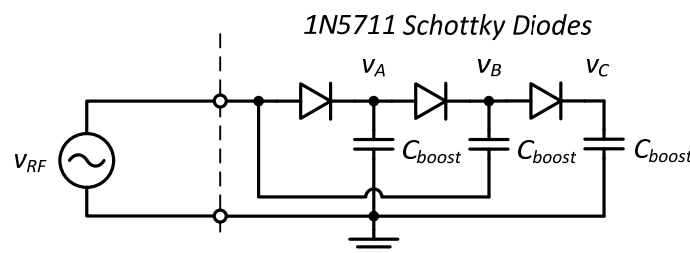

Figure 4. 3-stage voltage-boosting rectifier circuit schematic.
- L3.2** A schematic of a 3-stage voltage-boosting rectifier is shown in Figure 4. Sketch the voltages v_A , v_B , and v_C over the first three cycles when v_{RF} is a sine wave with 1V_{ppk}, assume the diodes are ideal and all caps are discharged at $t = 0$. What are the values of v_A , v_B , and v_C in steady-state ($t = \infty$)?